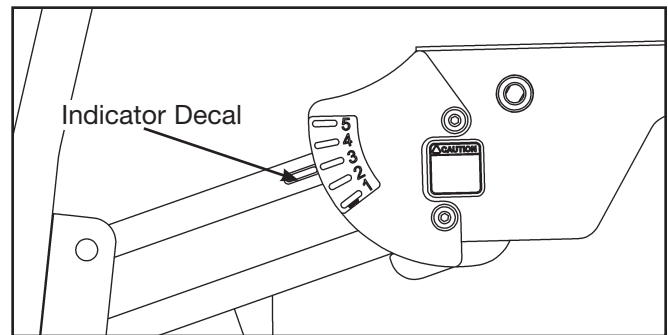

Figure 3
- A. Install the indicator decal onto the linkage bar as shown in Figure 3.